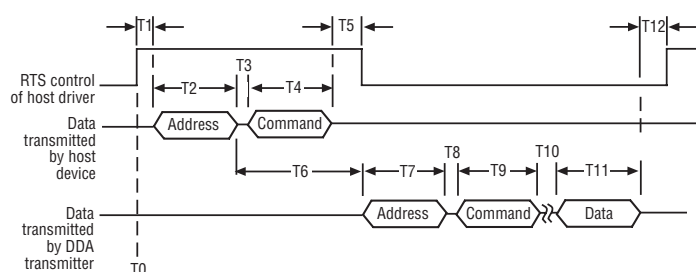

Fig. 4: Network protocol timing information
Network protocol timing sequences (interrogation sequences) are shown in (Figure 4). This time line representation of data transmission sequences also provides information about host computer control of the RS-485 communication card and also illustrates driver enabled control through the RTS control line.
Many available communication cards (line drivers) for use with the host computer device use a special control line input to control the enabling and disabling of the RS-485 driver. Typically this input is connected to the computers RTS or DTR communication port control line. The computer can then control the state of the driver by toggling the RTS or DTR signal lines via software control. An example of this control method is shown in (Figure 4). Other control methods are also used depending on the manufacturer of the equipment.
1. The start of the sequence begins when the host enables its RS-485 driver to transmit the Address/Command bytes (see time line 'T0' in Figure 4).